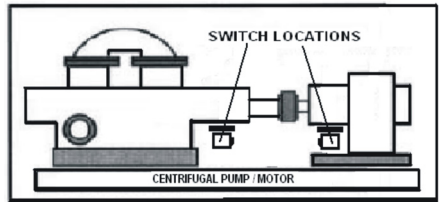

Figure 3
**NOTE:** Do not install the switch in such a position that is difficult to connect to and to disconnect from the target machine/motor as shown in the Figure 3.